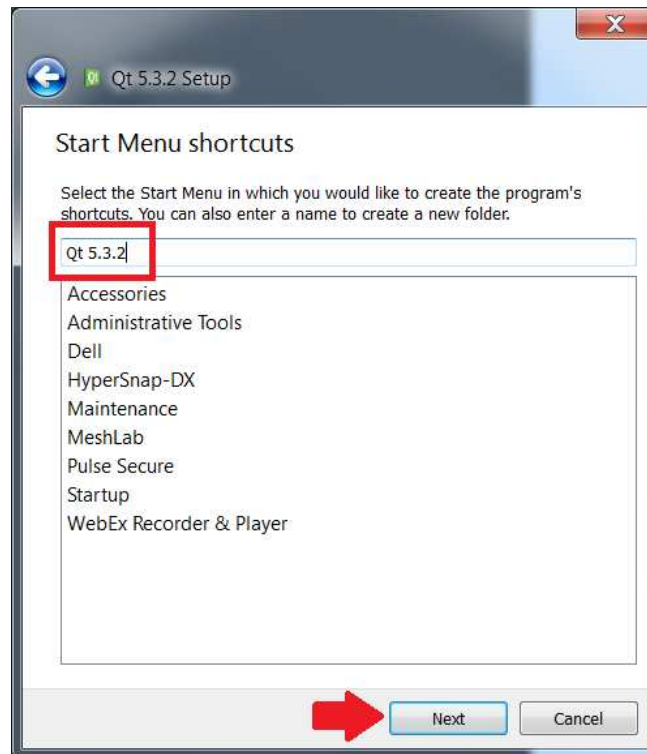

Figure 7. Qt Start Menu Shortcuts
6. If required by your system, select a different location in the Start Menu where you would like to create shortcuts. Figure 7 shows the default value. Once completed, click “Next.”